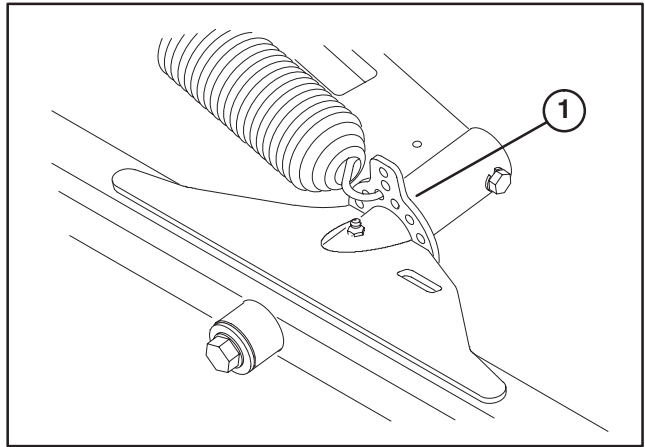

Figure 12
Reelmaster 2300 (Fig. 12 – 14)
1. Hook spring into third hole from top on inboard side of both front cutting unit lift tabs and on rear cutting unit lift tab (Fig. 12).